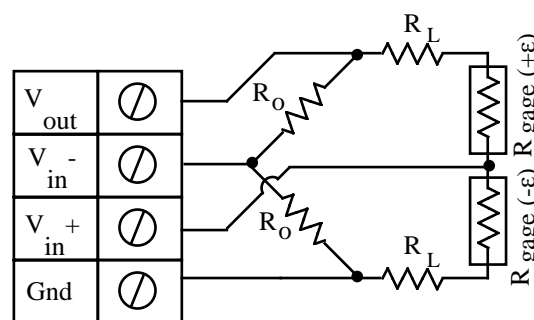

Fig 3.9 - Strain Measurement - Half Bridge Circuit (Axial)
Measuring axial strain using a 1/2 bridge configuration involves wiring two strain gages as shown in figure 3.9, applying a voltage across the bridge, and measuring the voltage across the two intermediate bridge nodes via a pair of instruNet Vin+ and Vin- input terminals. The excitation voltage for the bridge is supplied by either the instruNet Vout terminal or by an external voltage source. In figure 3.9, R_{gage} is a strain gage, R_O is either a fixed resistor of known value or a fixed unstrained strain gage of value R_O, and R_L is the lead wire resistance. instruNet calculates the value of the strain, returning "strain" engineering units, using the equations:
4. Wire your voltage source per figure 3.9, and refer to the steps at the beginning of this chapter for more information on how to set up your sensor.^{5,10}